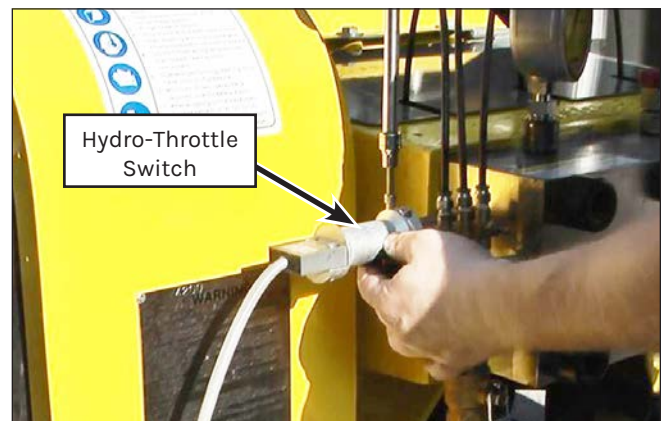

Figure 78: Hydro-Throttle Switch and Housing Installation.
27. Place the hydro-throttle switch and housing (Figure 78) into position and install the two bolts that secure it.